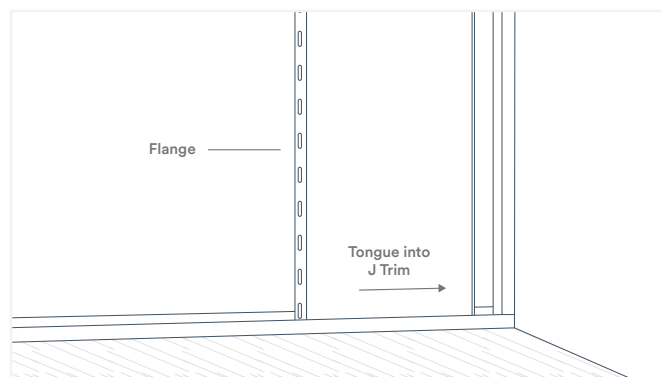

Fig. 11
4. Cut the length of the first panel for the first course. Place the panel with the tongue side in the corner trim and the groove (screw flange) side facing away from the wall (Fig. 11). Ensure the panel is parallel to the outside wall before fastening. Leave a 1/8” gap between the tongue side of the panel and the adjoining trim. Fasten a minimum of once every 24” with the recommended fasteners